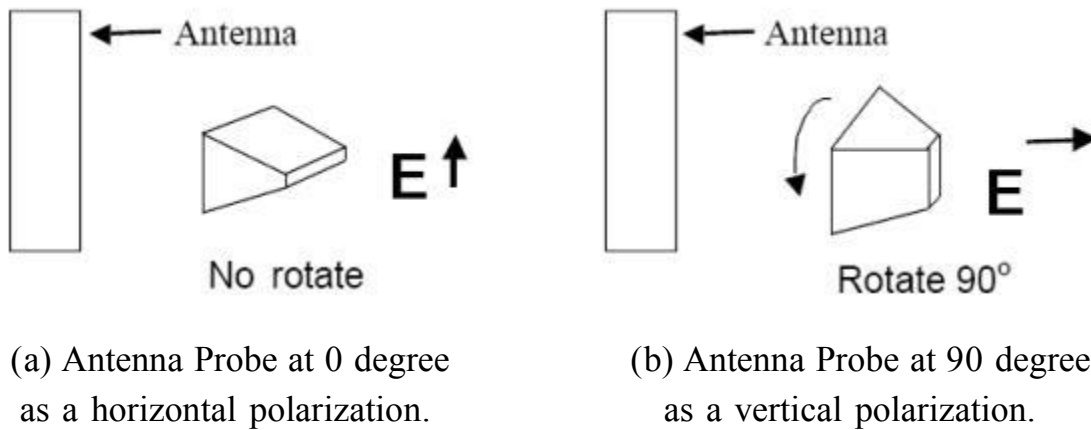

Fig. 3. The definition of vertical and horizontal polarization.
- (4) Gain of AUT. The standard gain antenna is a gain horn(SG-430 1.7GHz ~ 2.6GHz).
- (5) The planes defined in the Fig. 4 which we want to measure are H(X-Y) and E(X-Z) planes. The vertical or horizontal polarization's power is measured by rotating the antenna probe to 0 degree or to 90 degree shown in Fig. 3, respectively. While we combine both vertical and horizontal power, we obtain total power.
- (6) From the total power in three basic planes(H, and E), we can analyze the performance of the antenna is good or not.
(three) Then put the small antenna bag neatly into (Figure 3) and fill 10 small bags (the actual packaging shall prevail).